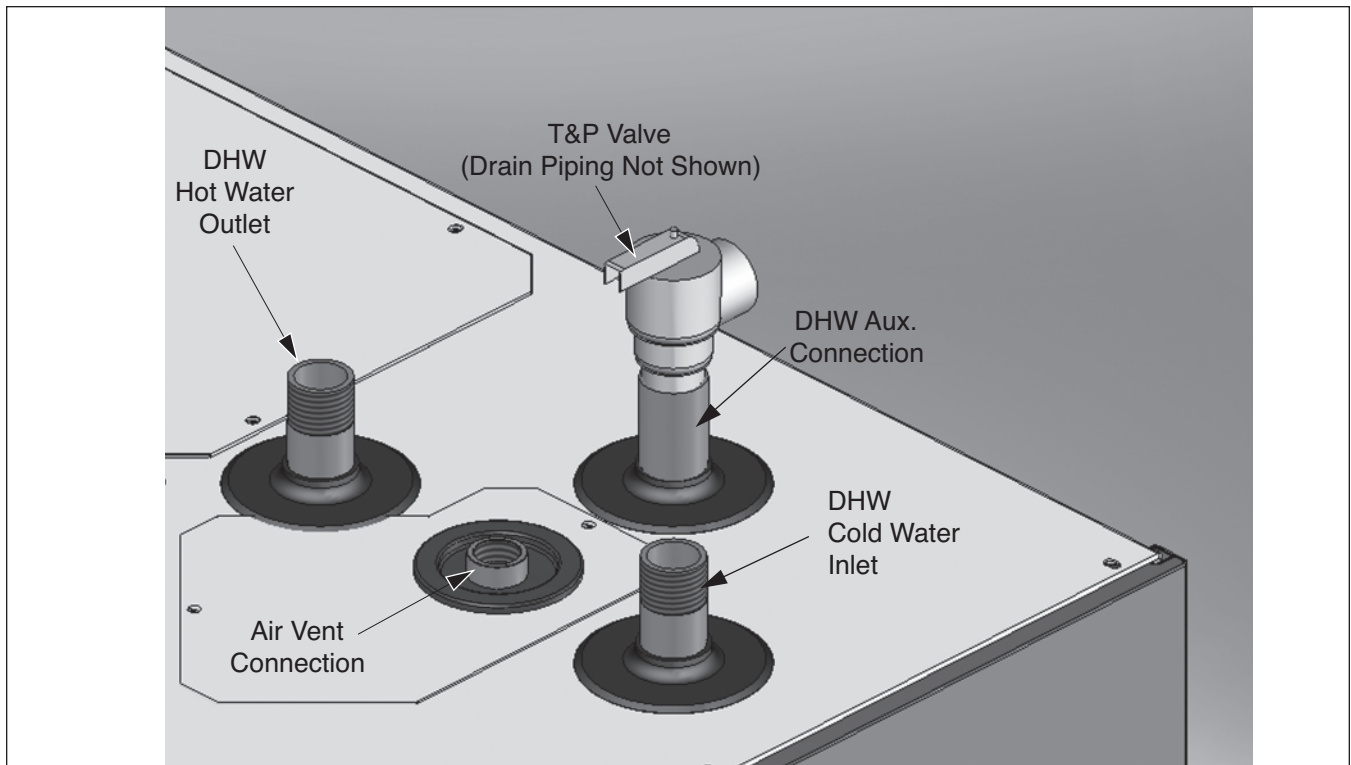

Fig. 2: Standard Installation of the T&P Relief Valve
- Install T&P relief valve in the **Auxiliary** connection located behind the air vent on the top of the water heater as shown Fig. 2 page 8.